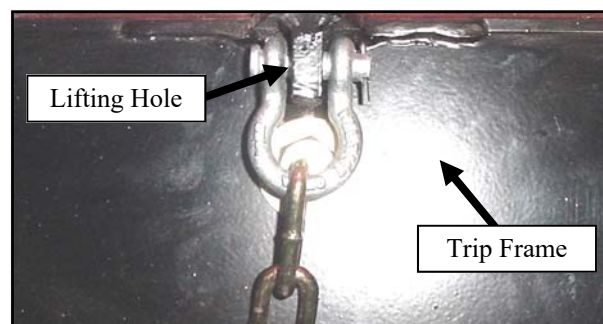

Fig. 4.2—Shackle installed on Trip Frame
- 4.2 Per fig 4.2, slide Lift Chain through shackle then insert the clevis pin on the lift chain shackle into the lifting hole on the trip frame. Slip Cotter pin into hole on clevis pin and bend back to lock in place.